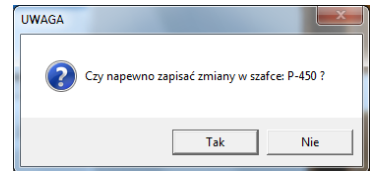

Fig. 184 – request for confirmation
- to save a new cabinet in the database, click the **Save the cabinet as...** button (also under the keys <Ctrl+S>), and then confirm by clicking **Yes** (Fig. 184);